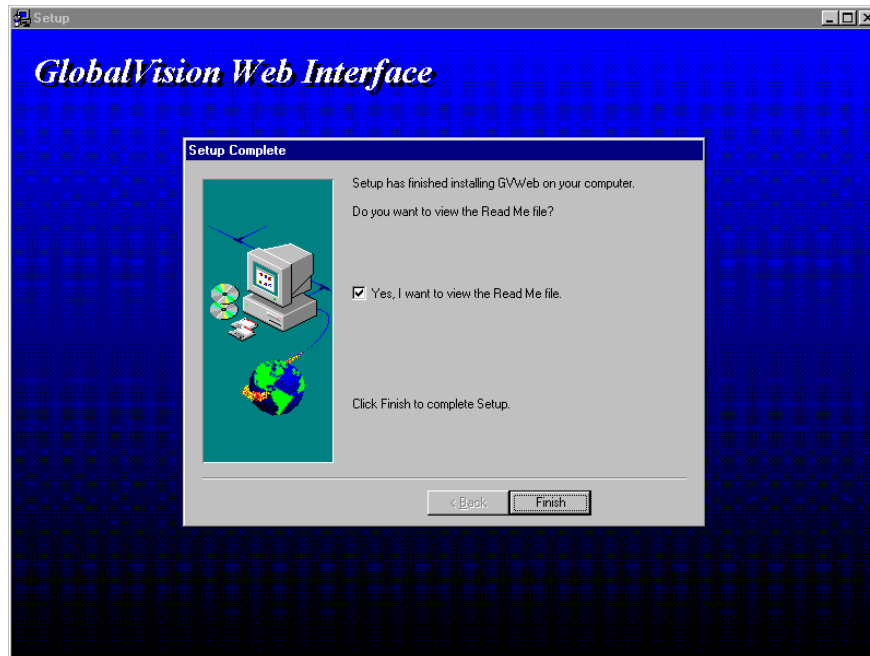

Figure 29 – Setup Complete dialog box
7. An Information screen will appear stating the GV Web Setup is complete. When you click on **Finish**, a README file appears. See Figure 29.